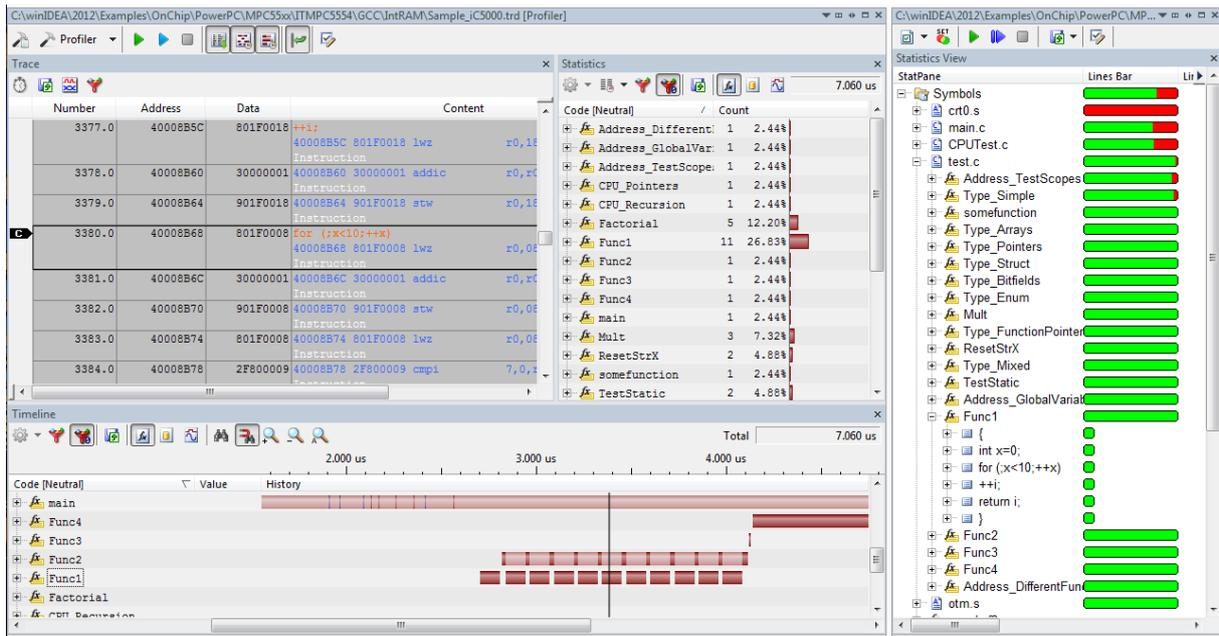

Figure 5: Trace Results over JTAG (with Slow Run)
- Figure 5: JTAGSlowRunTraceProfilerCC.jpg